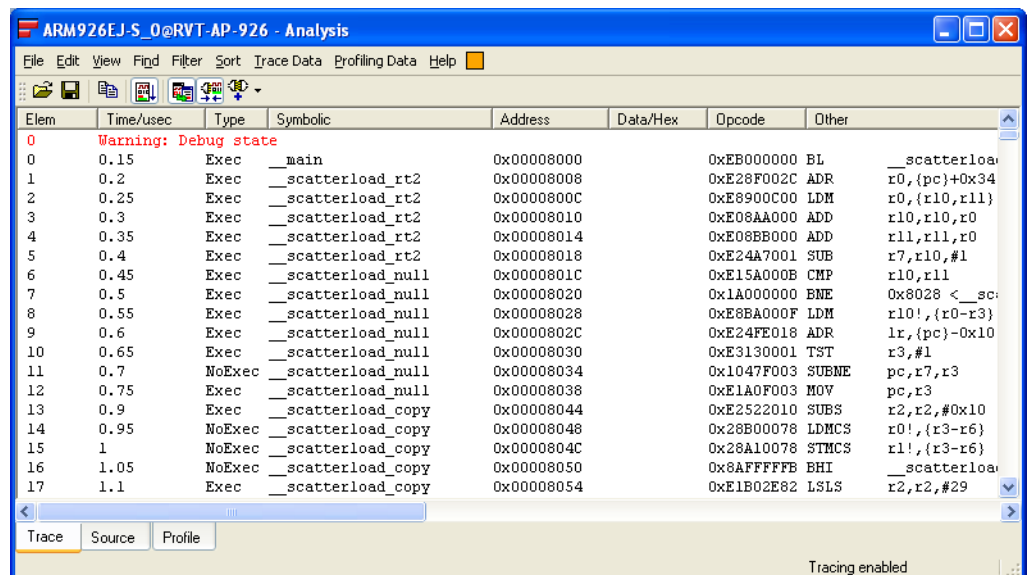

Figure 10-78 Trace captured before a trigger
3. Click **Run** on the Debug toolbar to start execution. The trigger is activated after 200 writes to output_port, and the captured trace is displayed in the **Trace** tab of the Analysis window. Figure 10-78 shows an example: